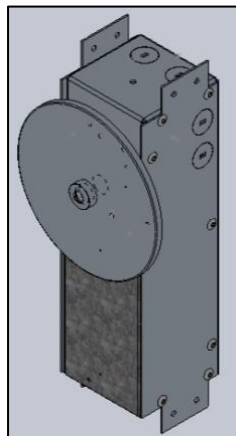

FIG. 7- CANOPY SUBASSEMBLY
- a. CANOPY SUBASSEMBLY (as shown in FIG. 7)